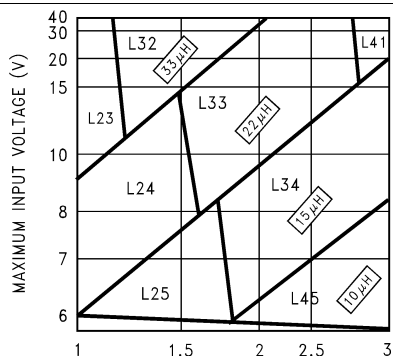

Figure 17. LM2676-3.3
Step 3: Determine the inductor required by using one of the four nomographs (Figure 17 through Figure 20). Table 3 provides a specific manufacturer and part number for the inductor.
Step 5: Determine an input capacitor from Table 7 or Table 8 for fixed output voltage applications. Use Table 1 or Table 2 to find the specific capacitor type. For adjustable output circuits, select a capacitor from Table 1 or Table 2 with a sufficient working voltage (WV) rating greater than V_{IN} max, and an RMS current rating greater than one-half the maximum load current (two or more capacitors in parallel can be required).
Step 3: Use the nomograph for the 3.3-V device (Figure 17). The intersection of the 16-V horizontal line (V_{IN} max) and the 2.5-A vertical line (I_{LOAD} max) indicates that L33, a 22- μH inductor, is required.